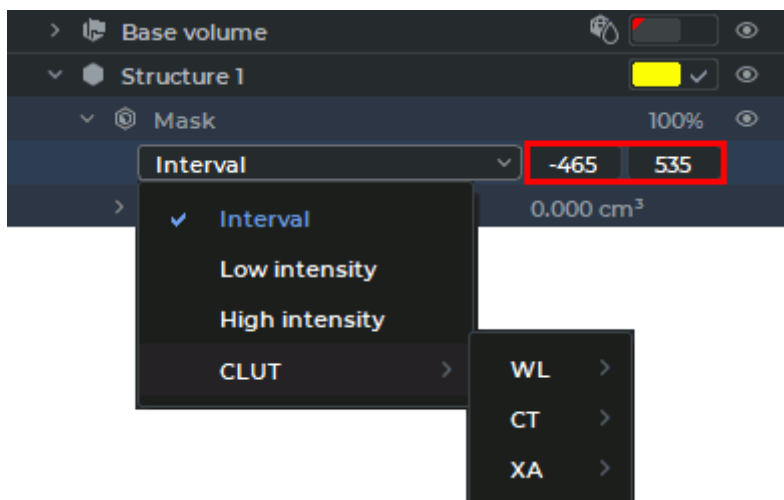

Figure 6.5: Editing the mask
3. For the properties tree on the Segmented structure panel (Figure 6.5):
- (c) To change the interval or the density threshold, click with the left mouse button on the values (see the red box in Figure 6.5). Provide the values you need and press **Enter** key on the keyboard.